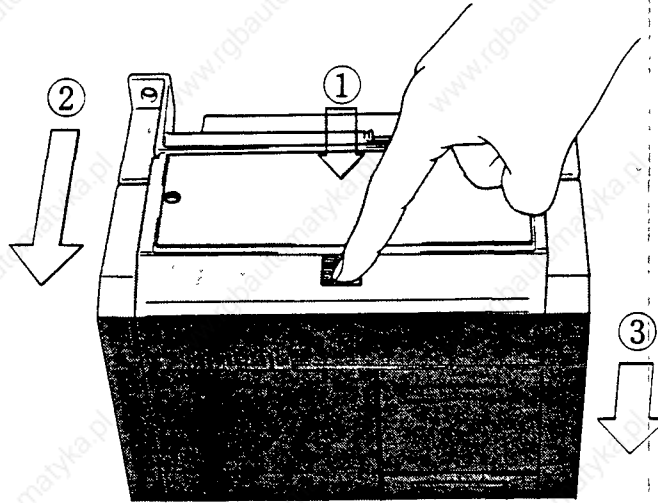

Fig. 4 Removal of Front Cover
To remove the front cover, as shown in Fig. 4, push down the white button located at the top of inverter (arrow ①), pull the top half of cover toward front (arrow ②), and further push it down lightly (arrow ③). Then, the cover is removed from the chassis. Since mounting screws are not used, the cover can be dismantled easily.